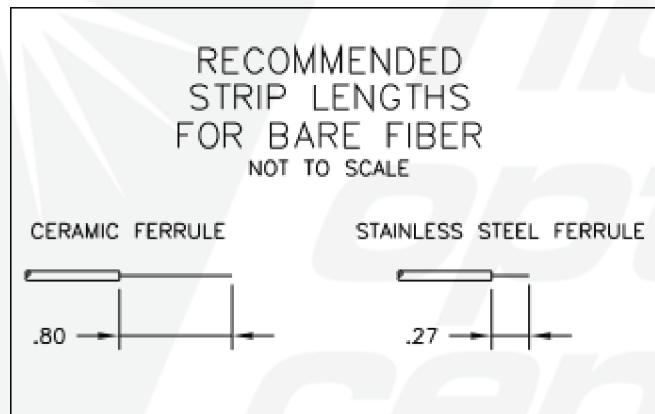

Figure 20: Bare fiber strip lengths for various connector types - SMARt, ST, FC, and SC.
2. Use Figure 20 below to determine the proper strip length for the bare fiber.